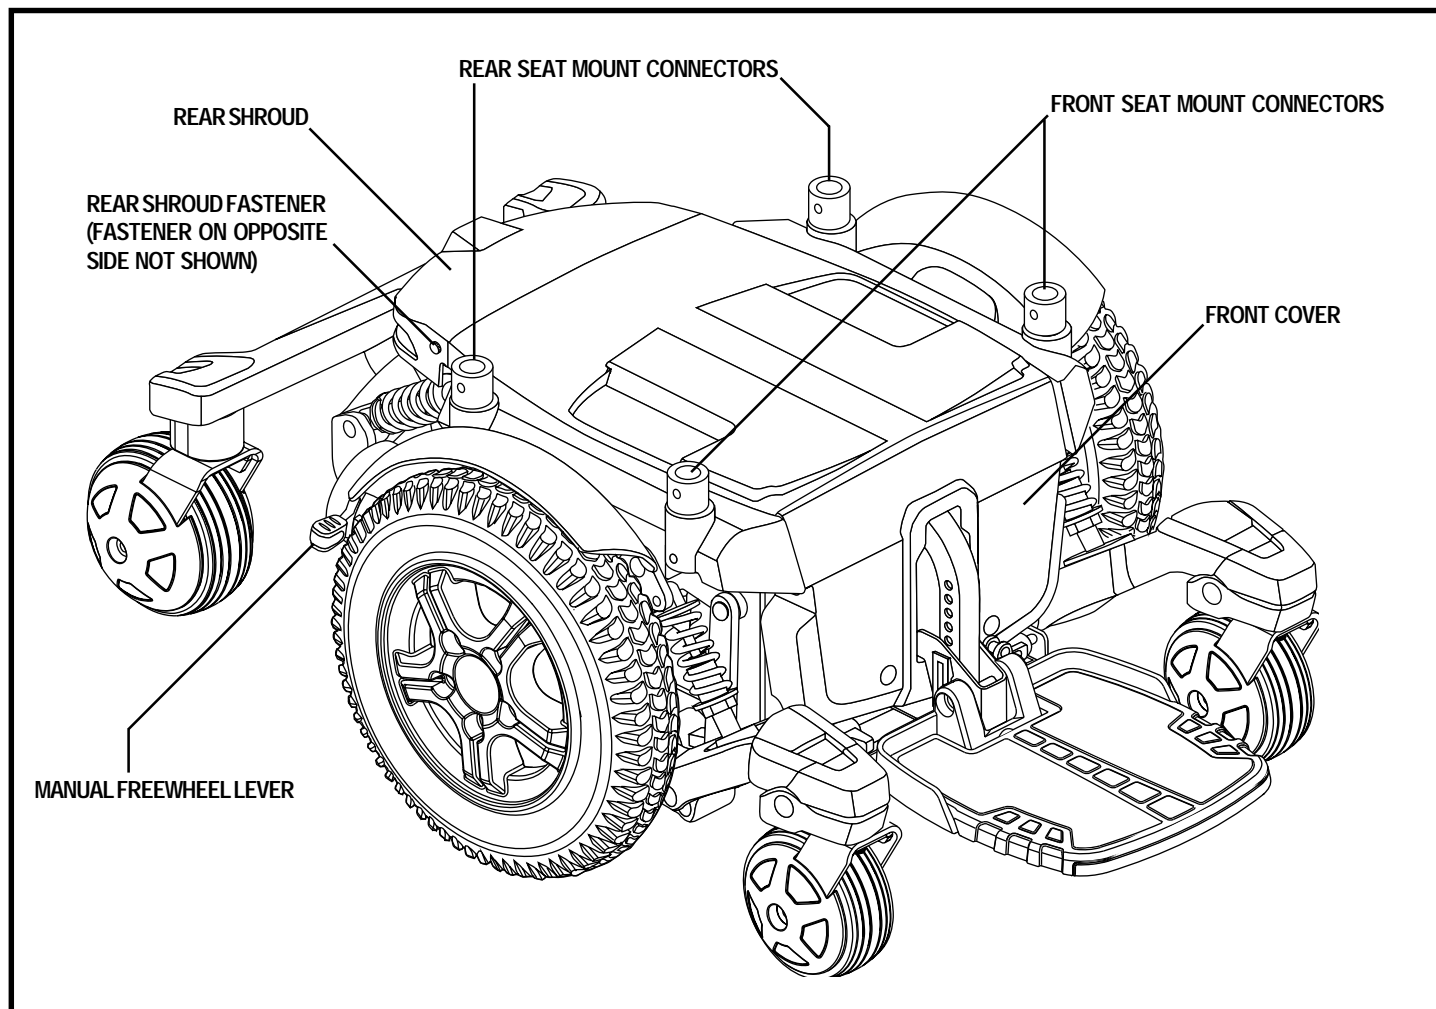

Figure 6. The Quantum 6000 XL Power Base
5. Loosen the rear shroud fasteners and remove the rear shroud. See figure 6.
7. Replace the rear shroud and tighten the rear shroud fasteners. See figure 6.
3. Loosen the rear shroud fasteners and remove the rear shroud. See figure 6.